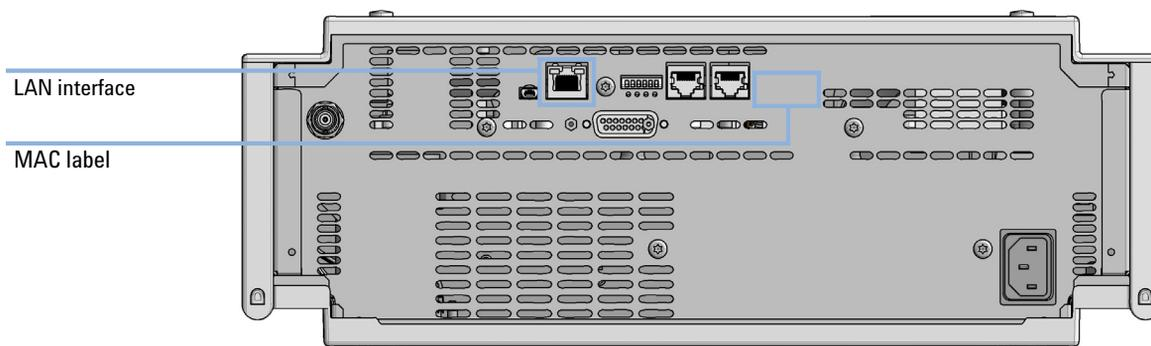

Figure 25 Location of LAN interfaces and MAC label
- 1 Note the MAC (Media Access Control) address for further reference. The MAC or hardware address of the LAN interfaces is a world wide unique identifier. No other network device will have the same hardware address. The MAC address can be found on a label at the rear of the module underneath the configuration switch (see Figure 25 on page 219).
- 2 Connect the instrument's LAN interface (see Figure 25 on page 219) to